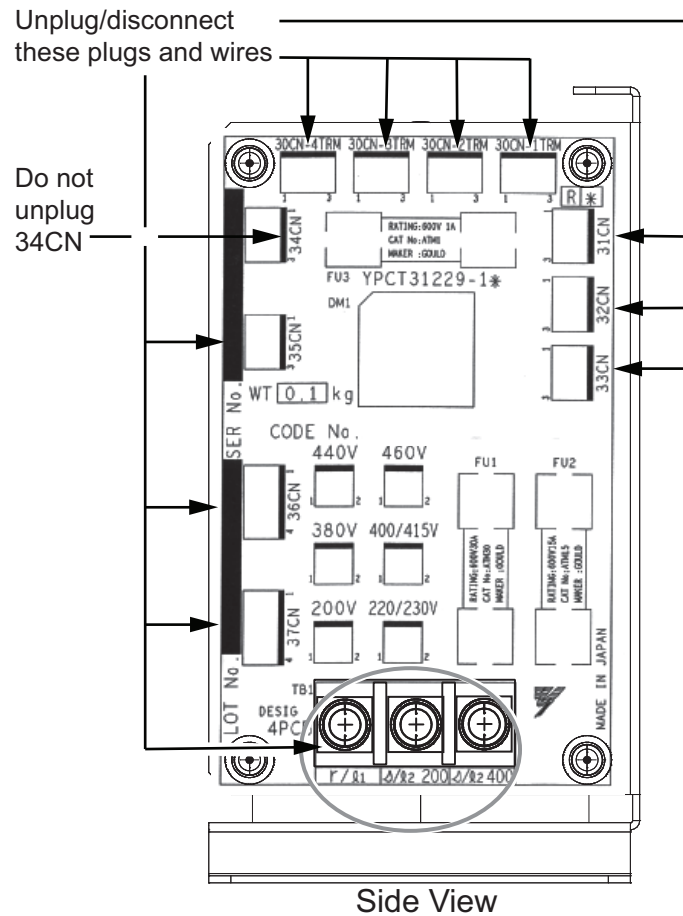

Figure 5 Power Supply Unit Plug and Removal on 4PCB
3. After verifying the Power Supply Unit is safe, unplug and disconnect all wire connections and plugs from 4PCB Tap Change Card as shown in **Figure 5**. Use an insulated #2 phillips screwdriver to remove wire connections on terminal TB1.